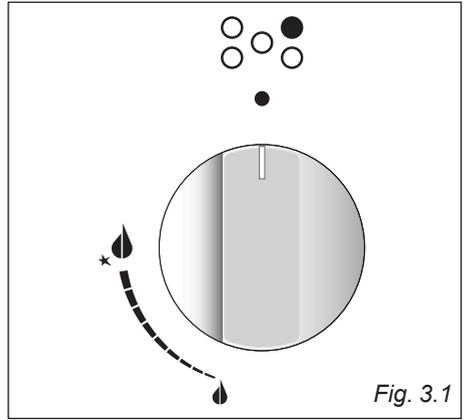
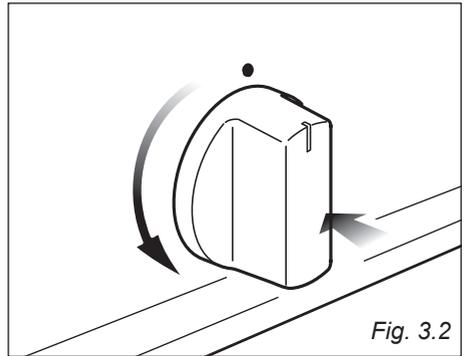

Fig. 3.1
Fig. 3.2
Gas flow to the burners is adjusted by turning the knobs (illustrated in fig. 3.1) which control the safety valves. Turning the knob, so that the indicator line points to the symbols printed on the panel, achieves the following functions:
1. Press in the corresponding knob and turn counter-clockwise (fig. 3.2) to the full flame position marked by the  symbol (fig. 3.1); hold the knob in until the flame has been lit.